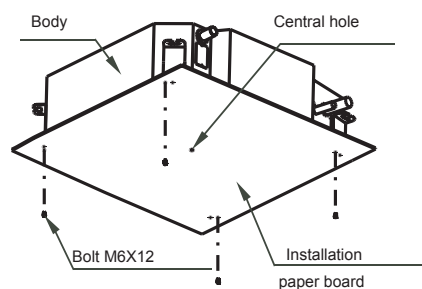

Fig.5-8
- After installing the body, please fasten the installation paper board onto the air conditioner with bolts(M6x12) to determine in advance the sizes and positions of the hole opening on ceiling. (Refer to Fig.5-8)